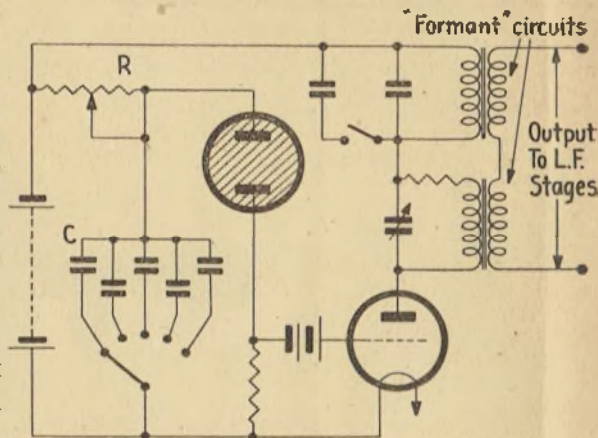

Fig. 1. Schematic of the "Trautonium."
Before discussing typical problems that arise in this class of work we will briefly describe some of the better-known instruments that have been developed. Mention has already been made of Lee de Forest's invention—a somewhat similar idea was designed by Trautwein in 1930 and 1931, using Neon lamps as relaxation oscillators in an instrument which he called a "Trautonium." Fig. 1 is a schematic of the circuit and it will be seen that the frequency or pitch is controlled by (1) a bank of condensers, and (2) by means of a variable resistance, thereby altering the time constant of the combination. The variable resistance consisted of a spun wire cord stretched over a steel band, the cord being pressed on to the band at any desired point by the performer. With such an arrangement staccato, glissando or vibrato playing can be easily achieved. Harmonics were stressed by a system of tuned circuits (called "formant circuits") in the plate circuit of the triode amplifier. A further amplification stage then fed a loud-speaker—in this portion of the circuit the volume control would be situated and be operated by a foot-pedal or a similar but smaller version for holding in the unoccupied hand. The playing technique is thus reduced to very simple proportions. In the actual instrument a dummy keyboard was painted under the steel strip to assist the player in the correct location of the notes. Fig. 1 represents the improved circuit of his second patent British No. 403,365 of March, 1932). This patent covered further developments in the playing manual to facilitate vibrato technique by means of specially shaped keys that could be rolled from side to side by the finger and so cause a slight frequency variation.